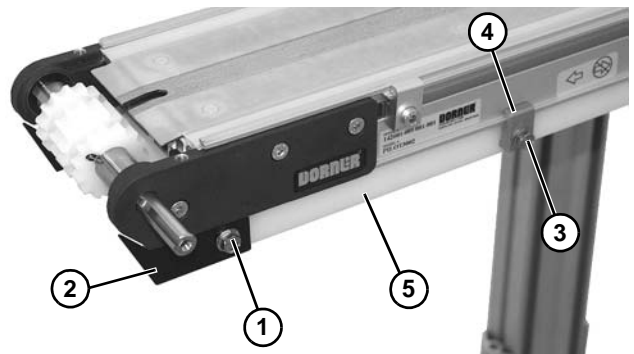

Figure 57
2. Remove screw (**Figure 57, item 1**) and sag guard plate (**Figure 57, item 2**).
3. Remove screw(s) (**Figure 57, item 3**) from each retaining clip (**Figure 57, item 4**), and remove lower wear strip (**Figure 57, item 5**).